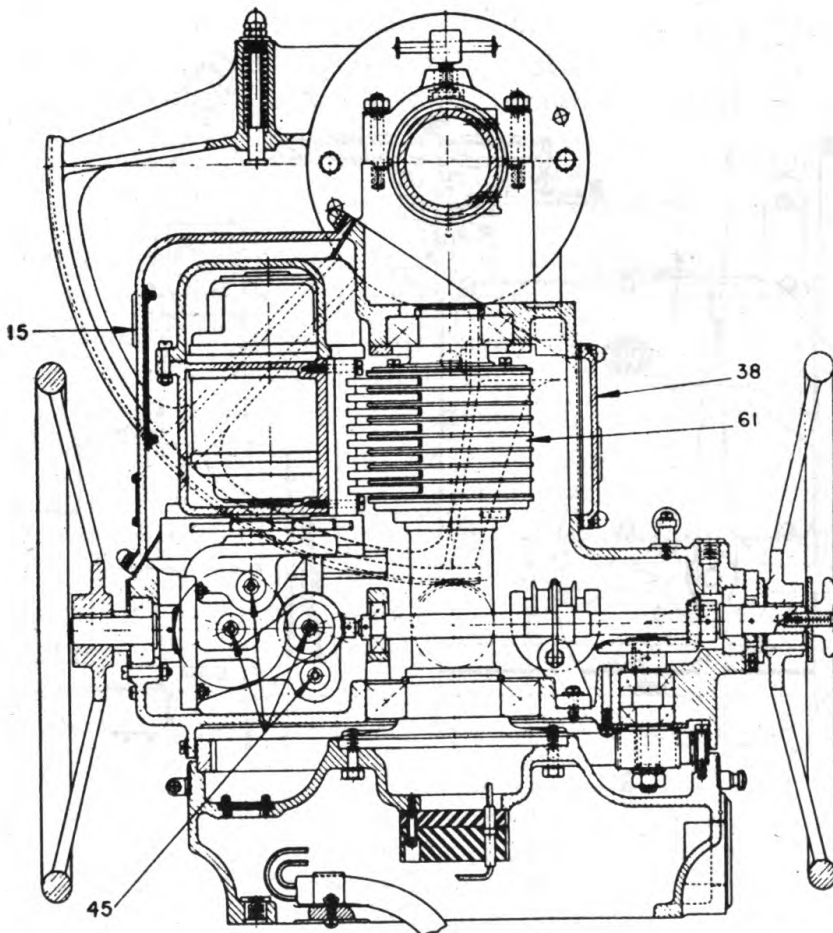
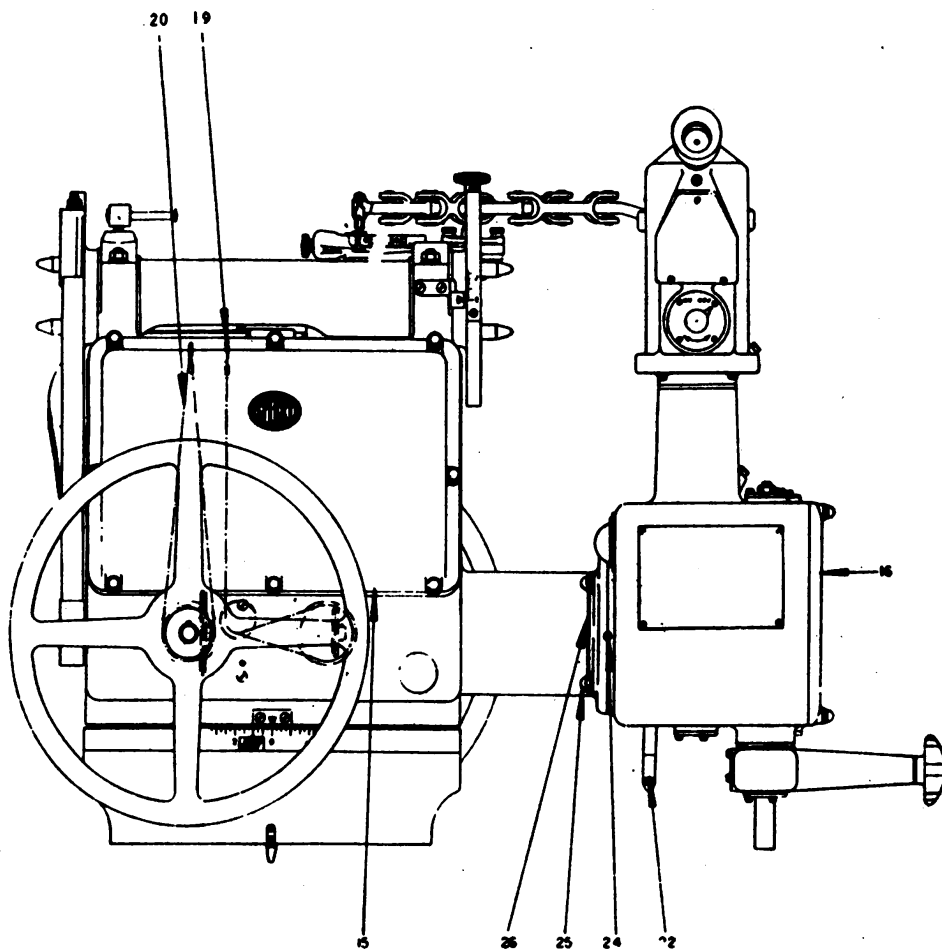

FIGURE 1.
FIGURE 2.
3. Remove front and rear cover plates 15 and 38, respectively, figure 1.
5. Check drive chains 19 and 20, figure 2, for proper lubrication and direction of travel. These chains, if correctly installed, should operate the upper sprockets 126 and 124, figure 8, in such a manner that the sprockets will turn counterclockwise when viewed from the elevation rack side of the main case, for decreasing azimuth or elevation.
6. Check condition of slip rings 61, figure 1. Clean with carbon tetrachloride, making certain that surfaces are completely clean and dry before applying any electrical power. Check resistors for continuity and resistance by means of volt-ohmmeter supplied with this equipment. See wiring diagram on inside of cover plate 15, figure 2.
7. Remove corrector drive cover plate 16, figure 2, and inspect rack and drive shaft bearings, as well as pinion and drive gears for lubrication or wear.